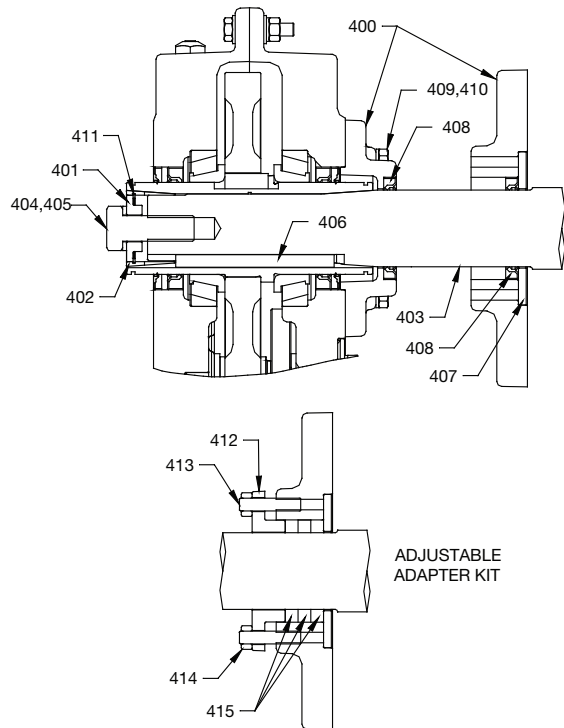

Figure 1 - Screw Conveyor Adapter Assembly
1. Install seals (408) into adapter housing as shown in Figure 1. If the optional packing adapter is to be used, install only one seal in the small end of the adapter. Use extreme care when installing seals to avoid damage to the seals. Press or tap seals into place by applying pressure only on the outer edge of the seal. Make sure seals are install evenly and are not tilted.
2. If using the optional packing adapter, install the two studs (413), retaining ring (412), and two nuts (414). Thread the nuts onto the studs about 4-5 threads. Install the three braided type seals (415) in a circular direction into the adapter cavity. Shoulder the braided seals against the adjustable retaining ring (412). To aid in installation of the driveshaft in step 7, the braided seals can be flattened out slightly with a soft hammer prior to installation. When installing the braided seals offset the joints from each other.
3. Lightly tap the large washer (407) into the counterbore on the large end of the adapter to seal the braided material installed in step 2 or the seal installed in step 1.
6. Place four adapter screws (409) and lock washers (410) through the adapter and thread into the reducer. Tighten the four cap screws (409) to the torque specified in Table 1.
8. Install the retaining ring (411) into the screw conveyor wedge (402). Making sure the driveshaft is fully seated into the reducer, slide the wedge onto driveshaft.
9. 9. Install keeper plate (401), driveshaft cap screw (404), and lockwasher (405). Torque to specifications in Table 1.